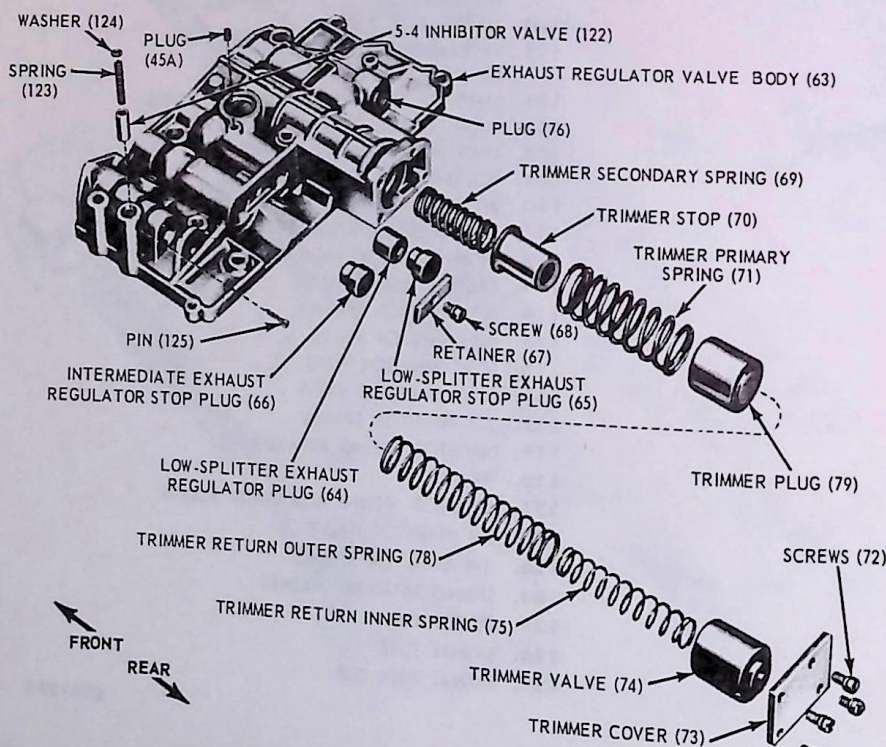

FIG. 27 Exhaust Regulator Valve Body—Rear View
1. Install the intermediate exhaust regulator stop plug (66), small diameter first, in the exhaust regulator valve body (63), (Fig. 27).
2. Install the low splitter exhaust regulator plug (64).